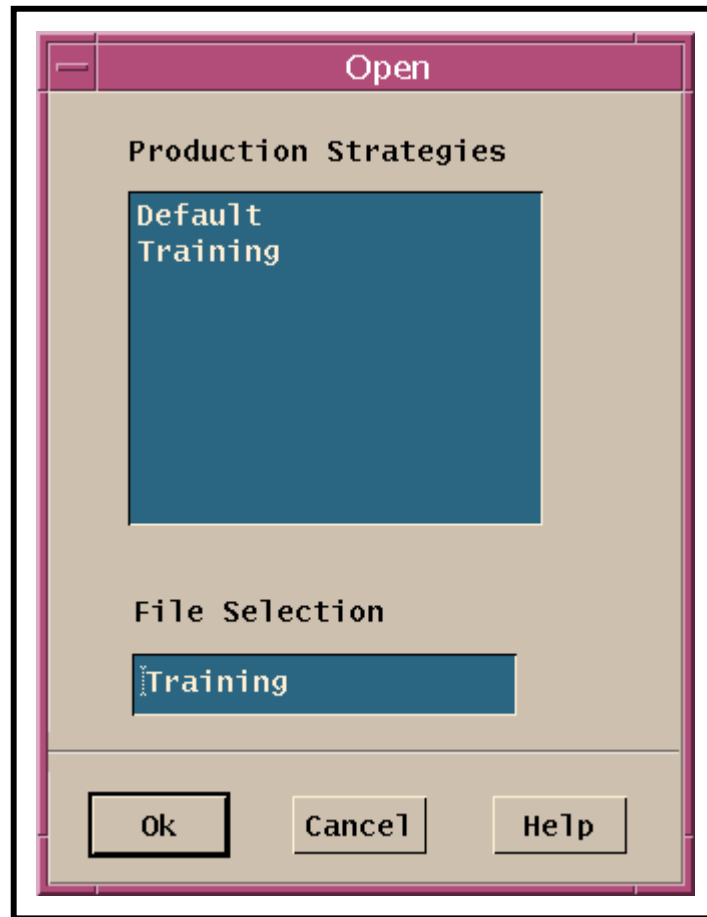

Figure 41. Production Strategies “Open” Window
- Alternatively, it is possible to select **File → Open** from the pull-down menu, select the desired production strategy from the list on the **Open** window (Figure 41), and click on the **Ok** button to open the production strategy.